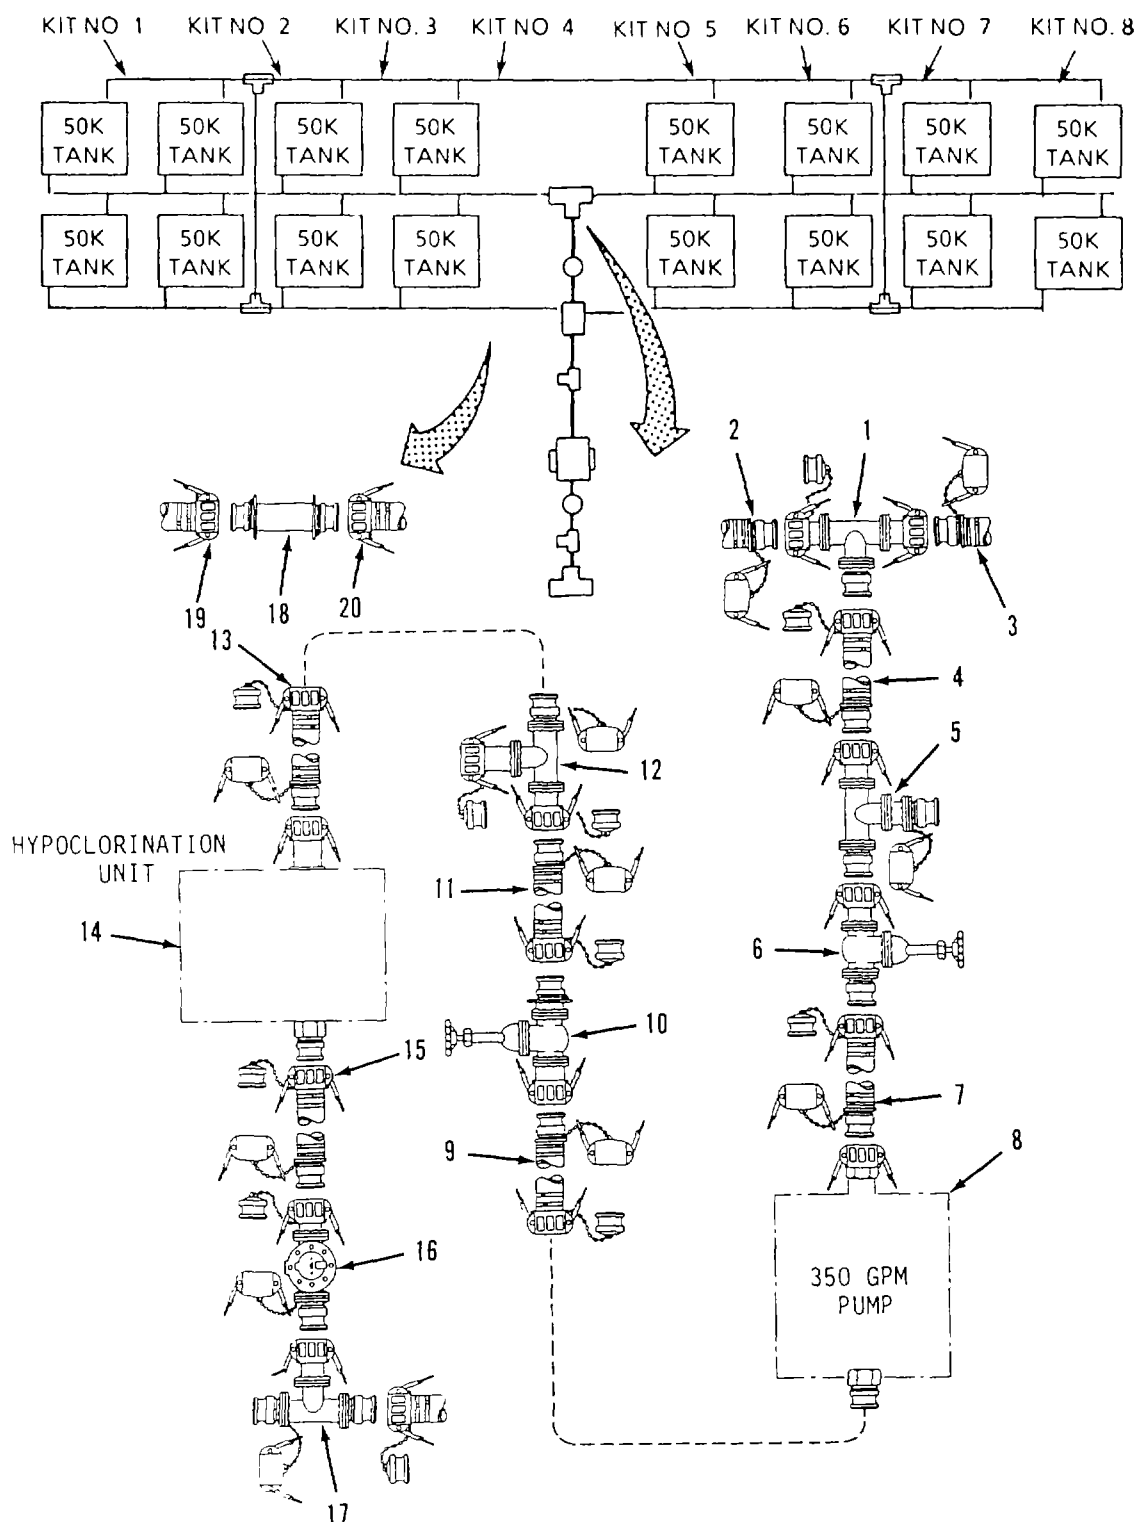

Figure 2-32. 350 Gpm Pump Connection Kit (Distribution Point) Disassembly.
h. Disassemble 350 Gpm Pump Connection Kit (Distribution Point). Refer to Figure 2-32.